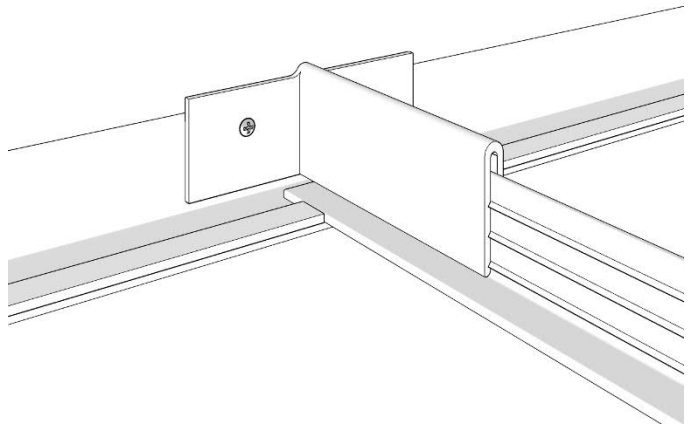

FIG. 28
4. The opposite end of the **Mainrails** and **Crossrails** will have the same **Seismic T-Junction** installation as above. FIG 28